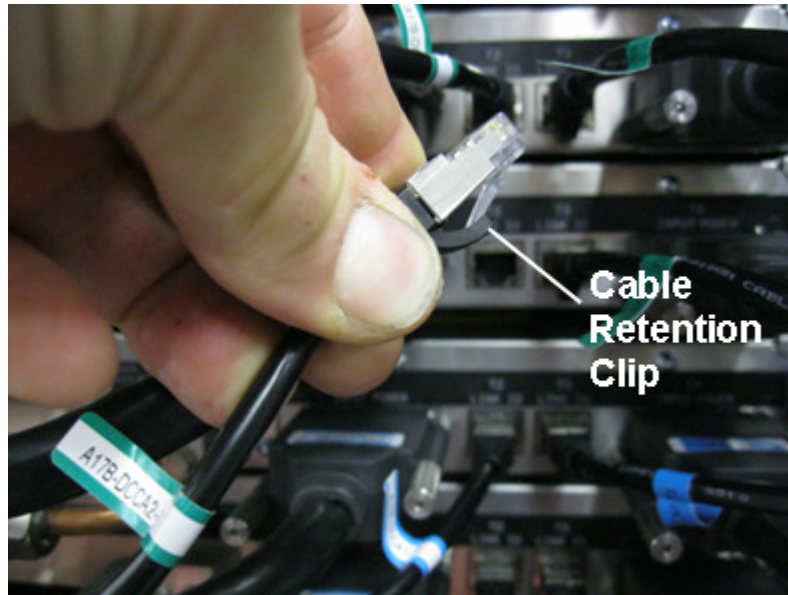
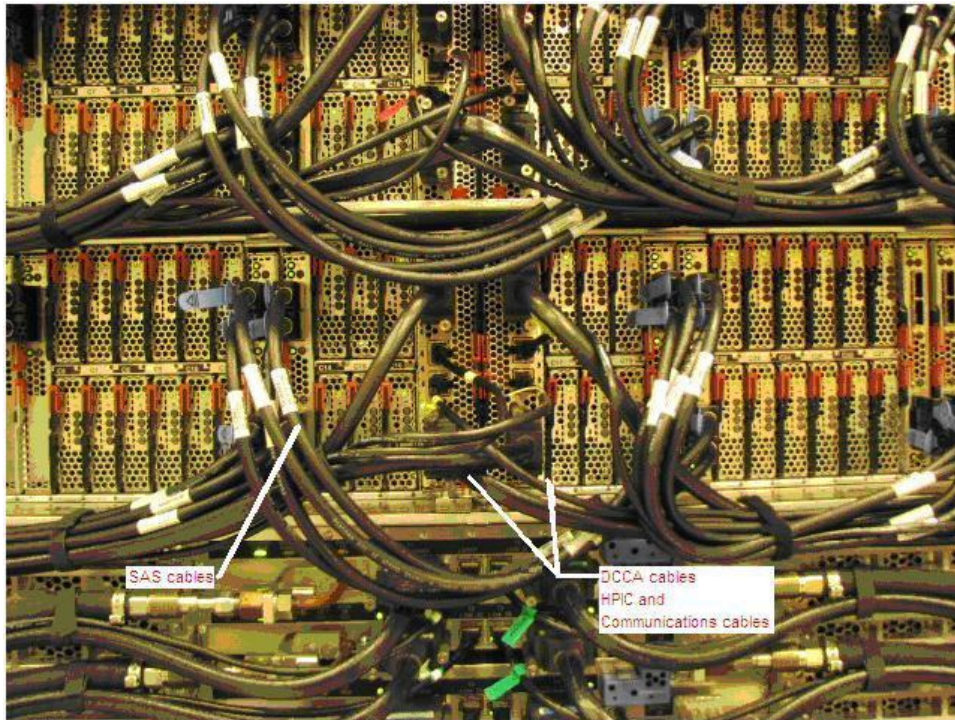

Figure 16: DCCA Service Network Communications (E/NET) Cable
Figure 17 DE cabling
STEP 19 Disconnect the four DCCA Service Network Communications (E/NET) cables from both DE DCCAs by depressing the “retention clip” (see Figure 16 and Figure 17). **All cables should be labeled to help when recabling the DE.** If any of these cables are not labeled, label them now.